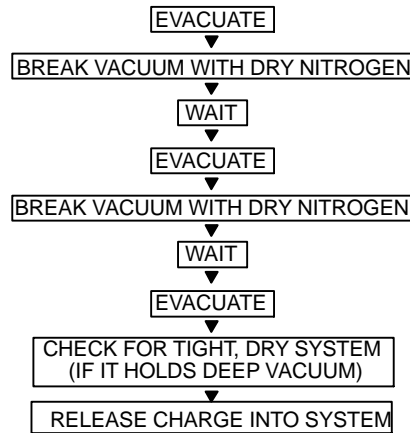

Fig. 24 – Triple Evacuation Method
The triple evacuation method should be used. Refer to Fig. 24 and proceed as follows:
- 5 Repeat this procedure as indicated in Fig. 24. System will then be free of any contaminants and water vapor.